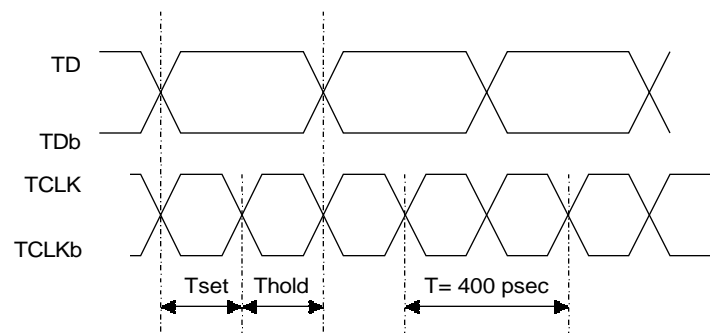
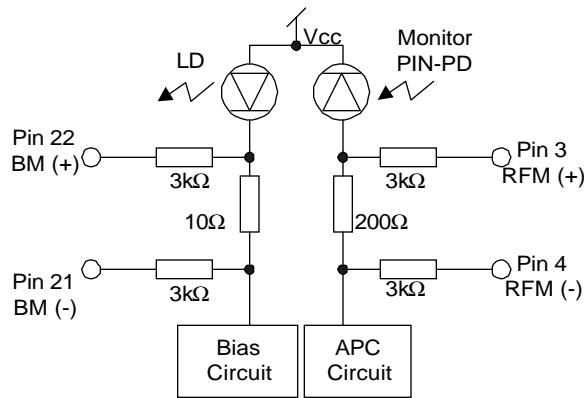

Figure 4 Input Data and Clock Timing
Figure 5 BM and RFM Interface
3. Refer to Figure 4. 4. Default (Open) normal operation. 5. Default (Open) clocked mode. 6. Alarm will be launched when LD bias current exceeds 70mA typ. 7. LD bias current can be monitored by measuring the voltage difference between BM(+) Pin 22 and BM(-) Pin 21. Please refer to Figure 5. 8. Rear Facet PD current can be monitored by measuring the voltage difference between RFM(+) Pin 3 and RFM(-) Pin 4. Please refer to Figure 5. 9. High input impedance (> 1MΩ) device is required to measure this voltage.